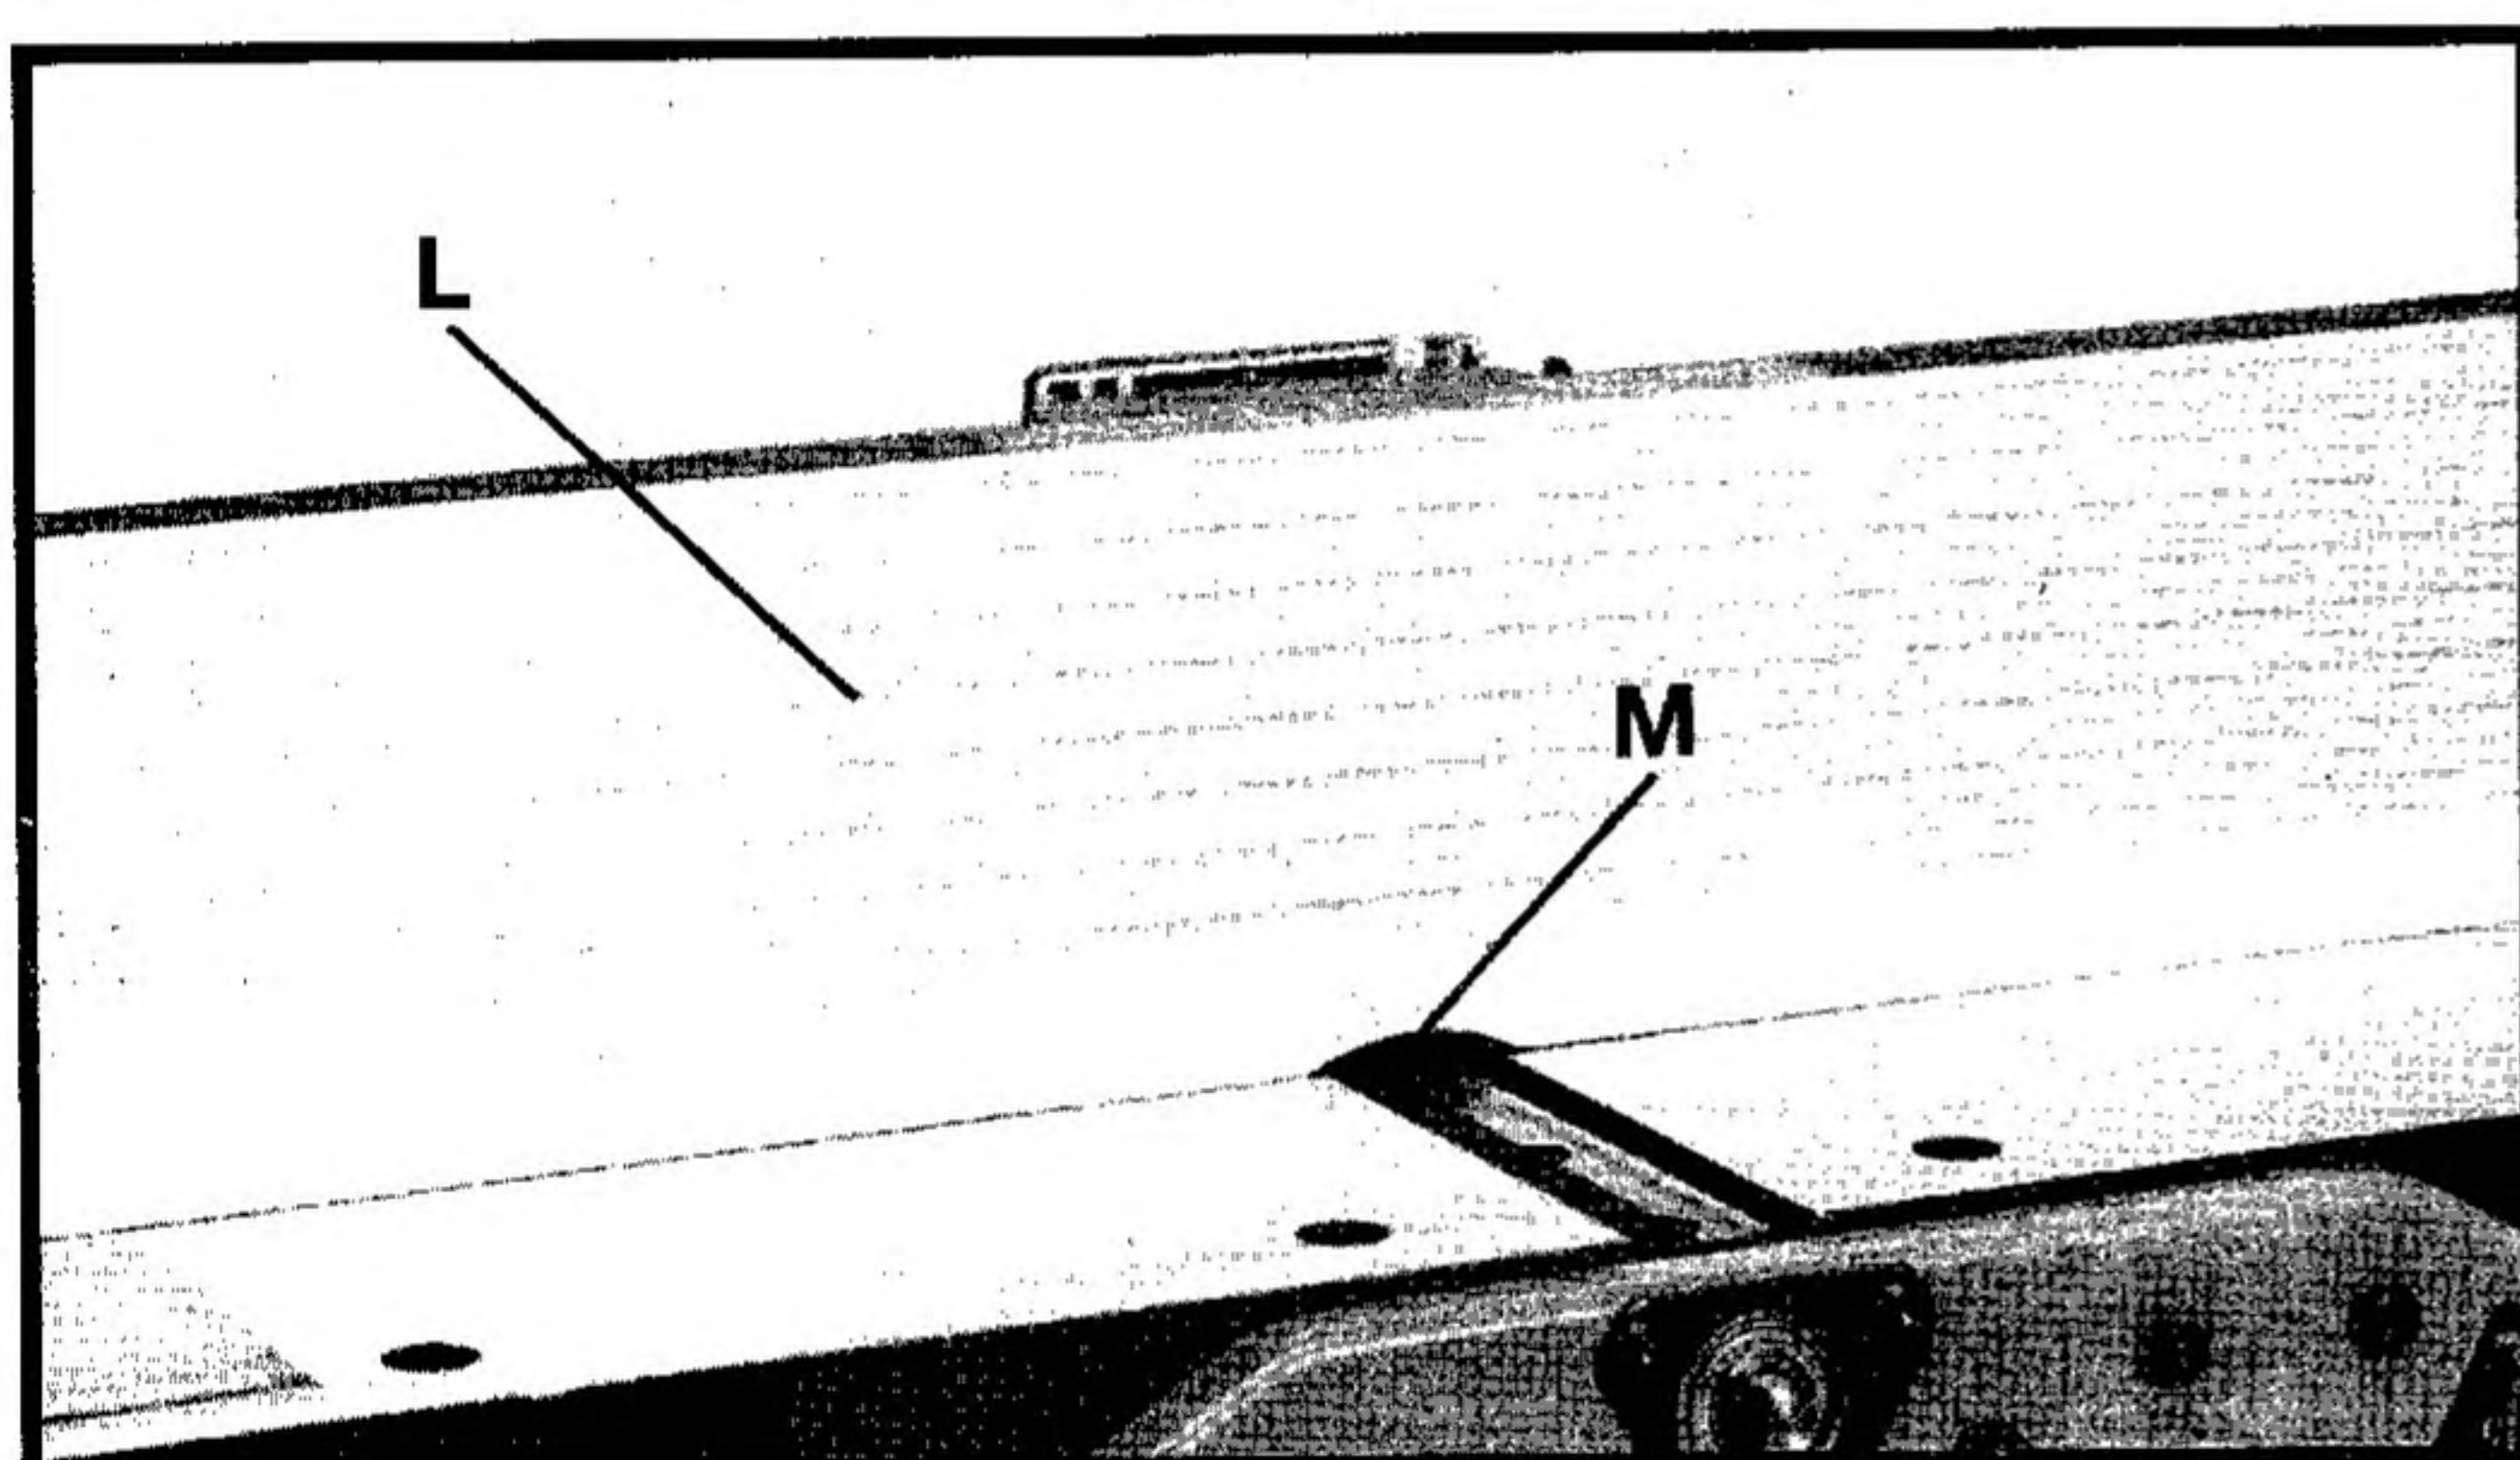

Fig. 11
5. Position fence (L) Fig. 11 so that rounded section (M) on bottom of fence is over cutterhead opening.